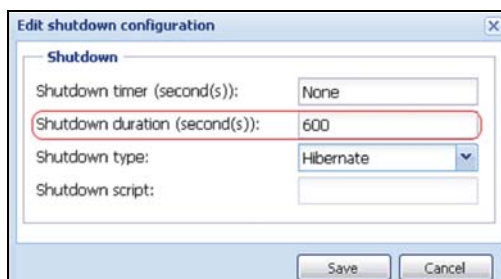

Figure 183. Edit Shutdown Configuration Dialog Box
- The IPM default configuration is available from **Settings > Shutdown > Edit Shutdown Configuration** (see Figure 183).